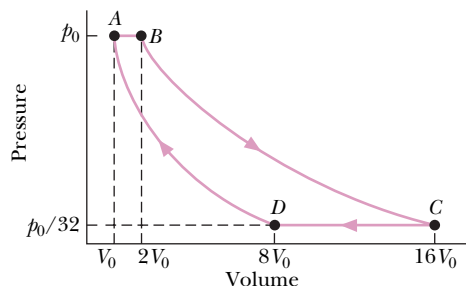

Fig. 20-30 Problem 34.
**••34** An ideal gas (1.0 mol) is the working substance in an engine that operates on the cycle shown in Fig. 20-30. Processes  $BC$  and  $DA$  are reversible and adiabatic. (a) Is the gas monatomic, diatomic, or polyatomic? (b) What is the engine efficiency?